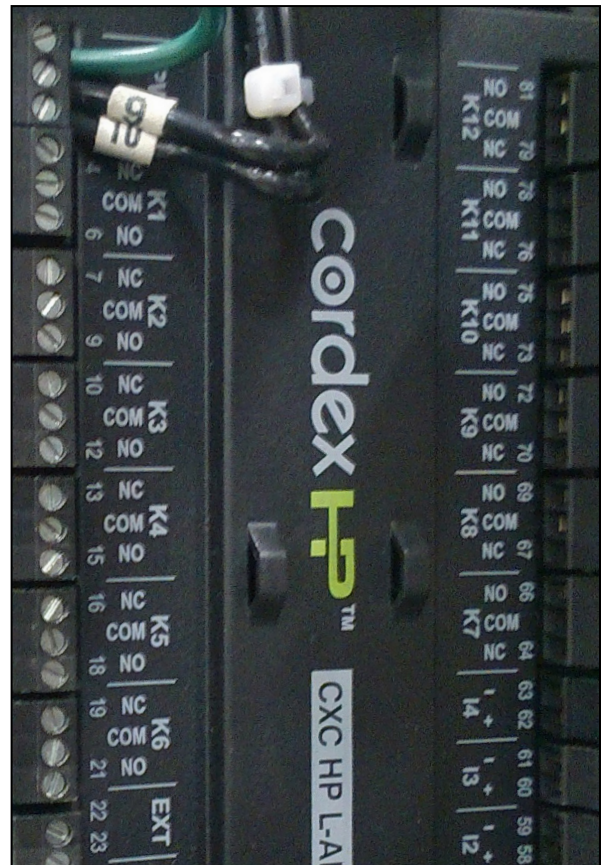

Figure 15 — Alarm relay pinouts
1. Use the Form C relay contacts on the L-ADIO to extend various alarm or control signals to an external site monitor. Figure 15 shows the L-ADIO module layout table F lists the factory default settings.